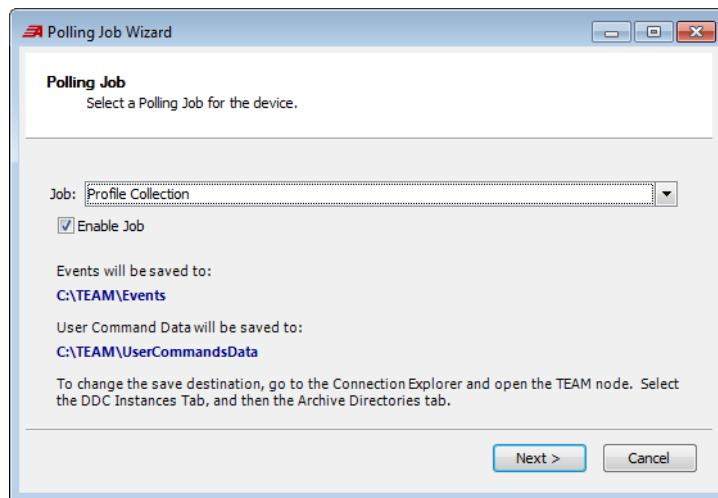

Figure 191 Polling Job Selection
- Step 2. Select **Profile Collection** in the **Job** drop-down menu and ensure that the **Enable Job** check box is selected as shown in *Figure 191*.